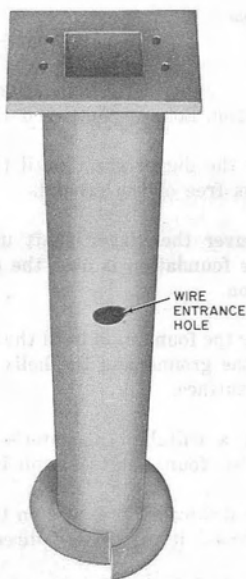
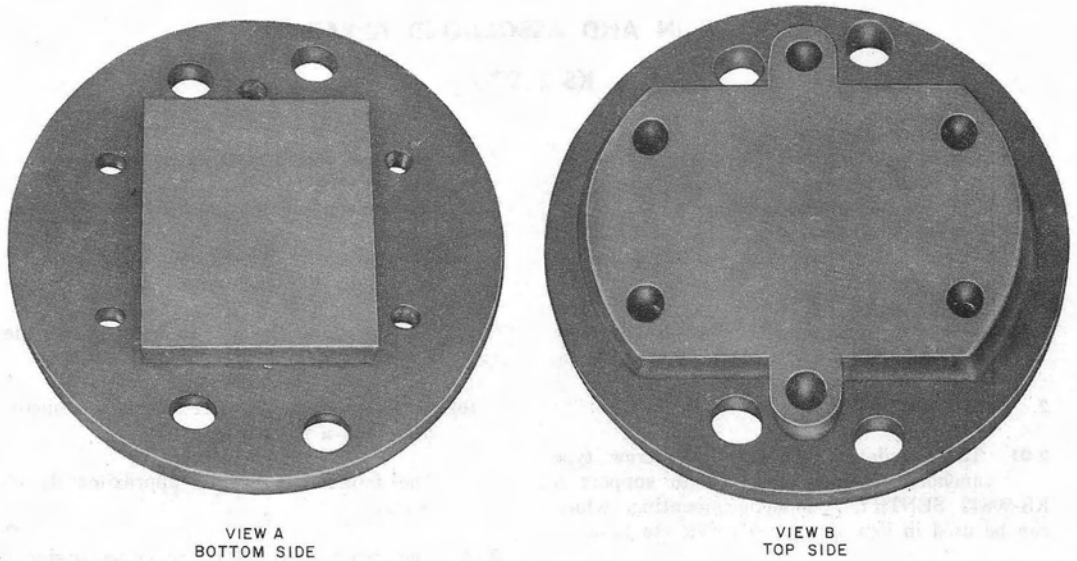
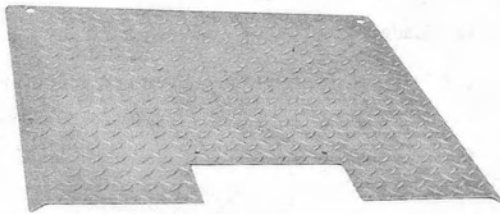

Fig. 1—KS-21976, List 1 Foundation
Fig. 2—KS-21976, List 2 Drive Tool
Fig. 3—KS-21976, List 3 Tread Plate
1.01 This section includes information on the KS-21976, List 1 foundation (Fig. 1); KS-21976, List 2 drive tool (Fig. 2); and KS-21976, List 3 tread plate (Fig. 3).
2.01 The foundation (Fig. 1) is a screw type anchoring device, designed to support a KS-20842 SENTRY* telephone mounting, which can be used in lieu of a poured concrete base.
2.03 The drive tool (Fig. 2) is a round tool designed to interface between the foundation and the line trunk digger shaft.
2.05 The tread plate (Fig. 3) is an aluminum plate, 27-5/8 inches by 31-1/8 inches, which is used as a pad for the customer to stand on while using the phone. It is attached directly to the foundation.